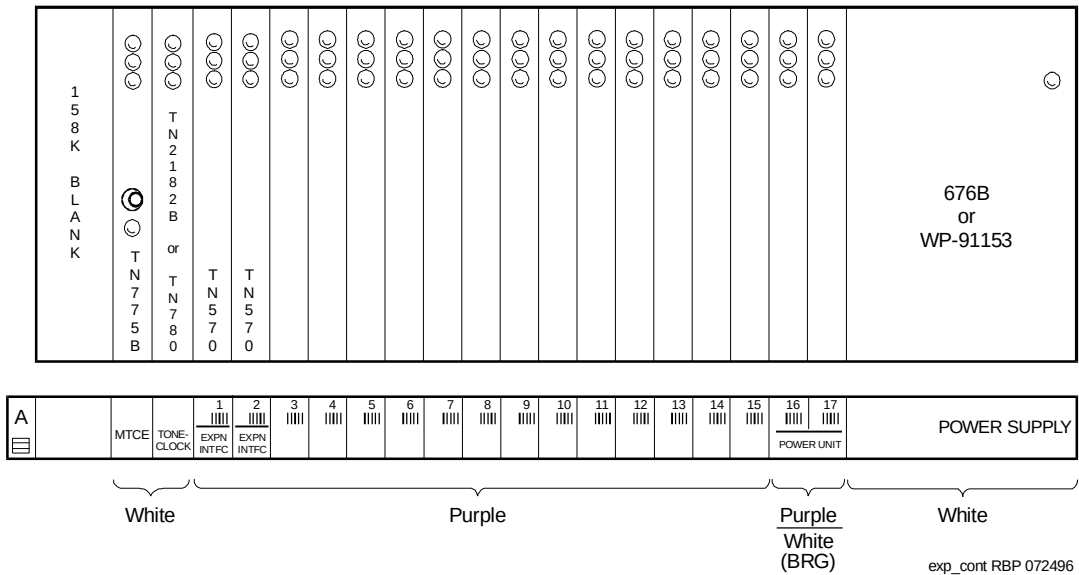

Figure 7-24. Circuit-Pack Locations in DEFINITY ECS Release 5 Expansion Control Carrier
1. See WARNING and NOTE. Install the new DEFINITY ECS Release 5 control circuit packs into carrier "A." See Figure 7-24. The new decal, and the annotated "list configuration all" (provided with the DEFINITY ECS Release 5 tape) as a guide.